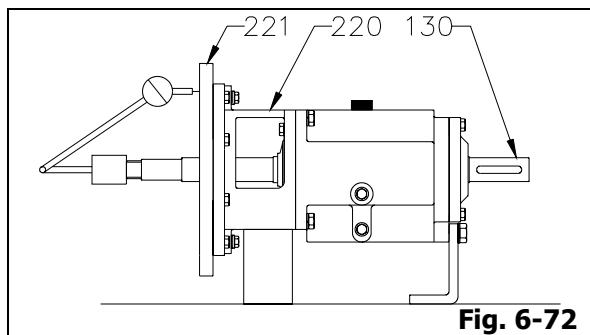

Fig. 6-72
2. Check frame adaptor (220) and adaptor extension ring (221) fits. Rotate shaft (130) through 360° . If total indicator reading is greater than 0.13mm, determine the cause and correct before proceeding (Fig. 6-72).